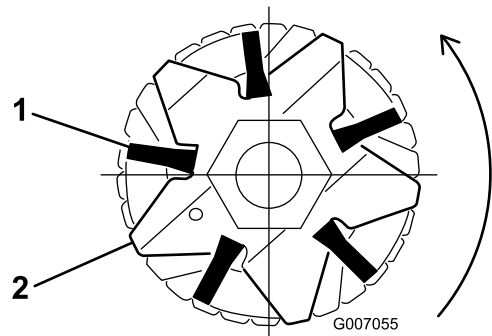
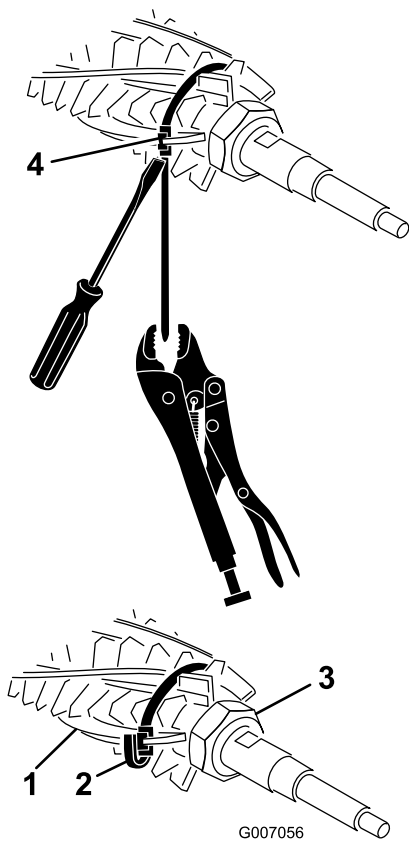

Figure 39
Figure 40
2. Verify that the brushes are seated in the groomer blade slots (Figure 39 and Figure 40).
3. Loosely wrap the straps, as shown in Figure 40, around the groomer reel shaft and brushes inserting the straps in the grooves in the brushes Figure 39 Position the brushes so the straps are between the following blades 1-2, 14-15, 28-29 and 41-42.
Note: If the broomer brushes are not seated properly in the blade slots, loosen the groomer blade retaining nuts on each end of the groomer shaft, position the broomer brushes properly in the blade slots, and tighten the groomer blade retaining nuts (Figure 40).
4. While pushing a screwdriver against the strap buckle, grasp the strap with a vice grip pliers and pull the straps tight until they lock in the brush grooves (Figure 40).
- Trim off the strap to approximately 1/4 inch from the buckle and fold the excess strap over the buckle (Figure 40)